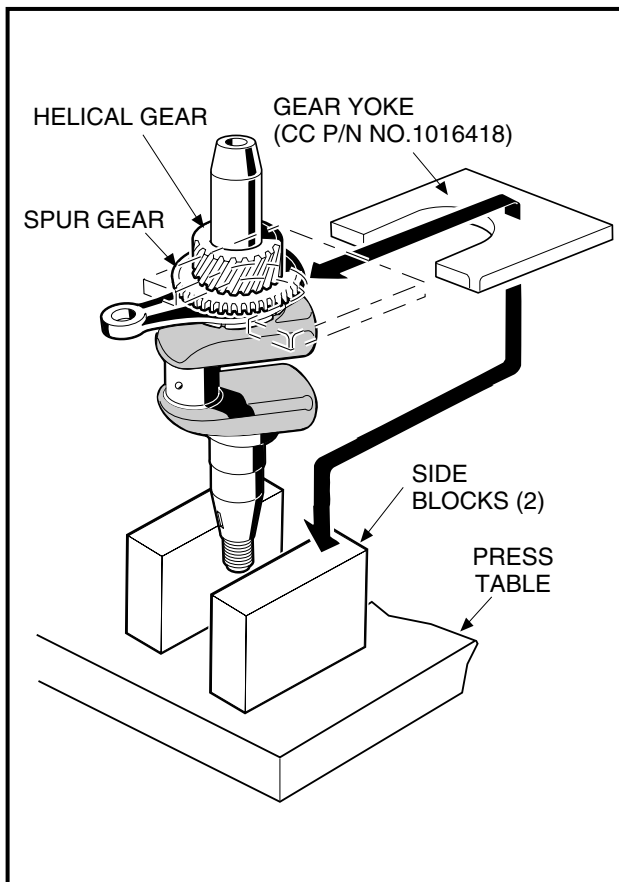

Figure 2-70 Place Assembly In Press
2. If the link rods need replacing, place the gear yoke (CCI P/N 1016418) under the spur gear with the small end of the connecting rod located opposite the crankpin (Figure 2-70, Page 2-32).
3. Position the gear yoke with the side blocks positioned as close to the crankshaft as possible (Figure 2-70, Page 2-32).